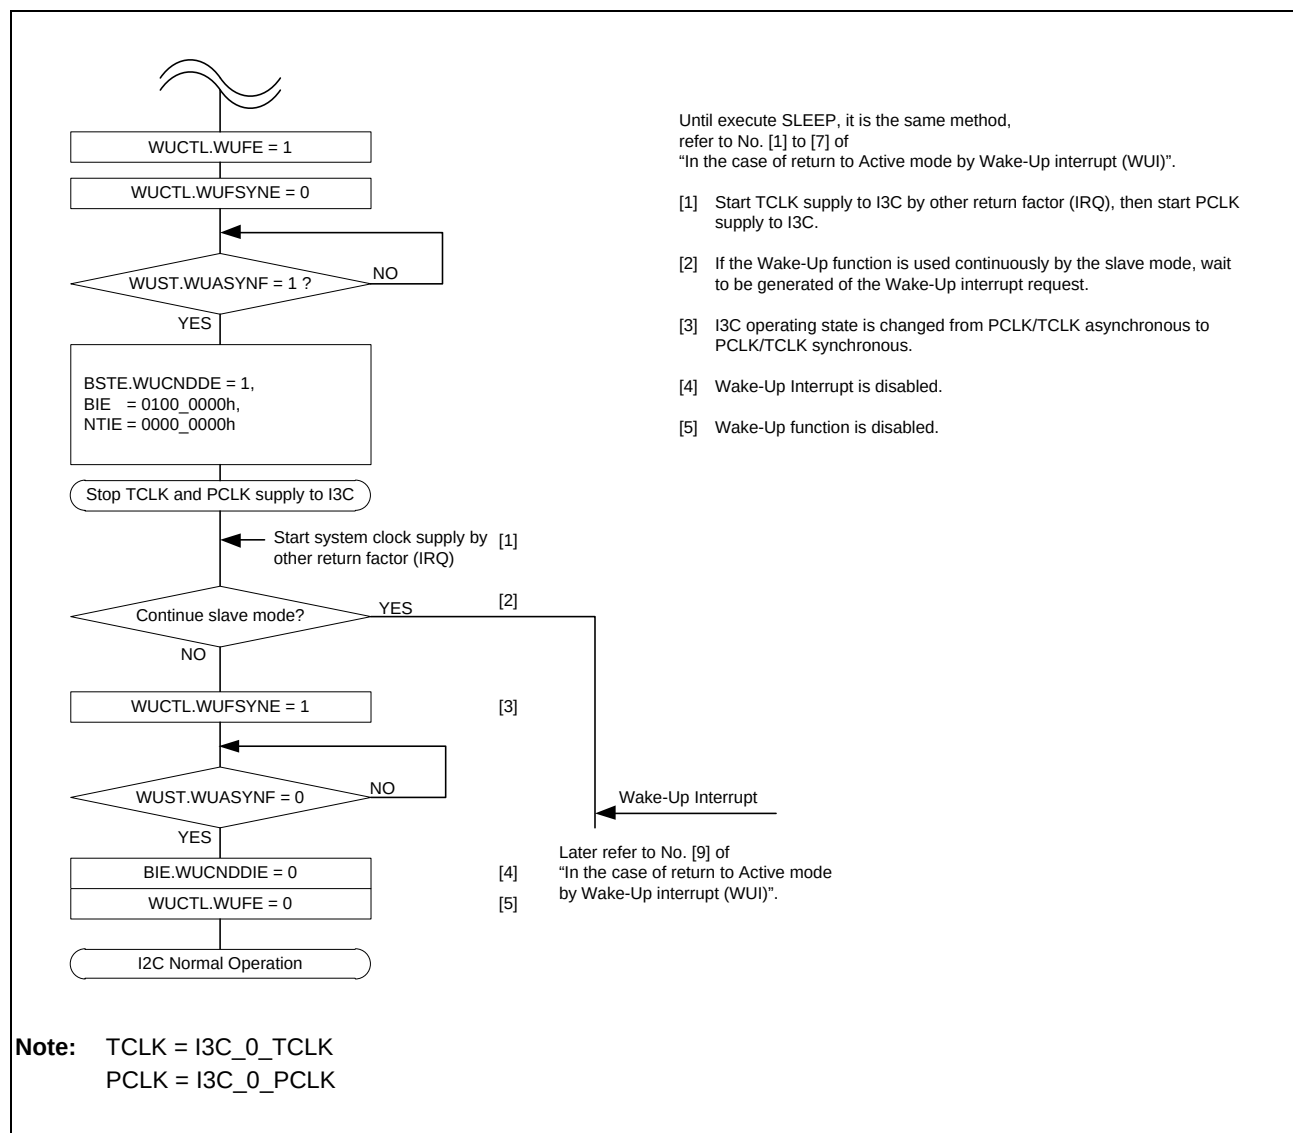

Figure 7.8-104 Use Case of Normal WU Modes 1 and 2 (Wake-up recovery by other recovery causes (IRQ))
2. A wake-up interrupt is not generated at the transition to the normal operation if the transition is triggered by a cause (other recovery causes (IRQ)) other than a wake-up interrupt signal generated by a slave address match. BST.WUCNDDF is not set in this case. Carry out the following processing according to **Figure 7.8-104**.